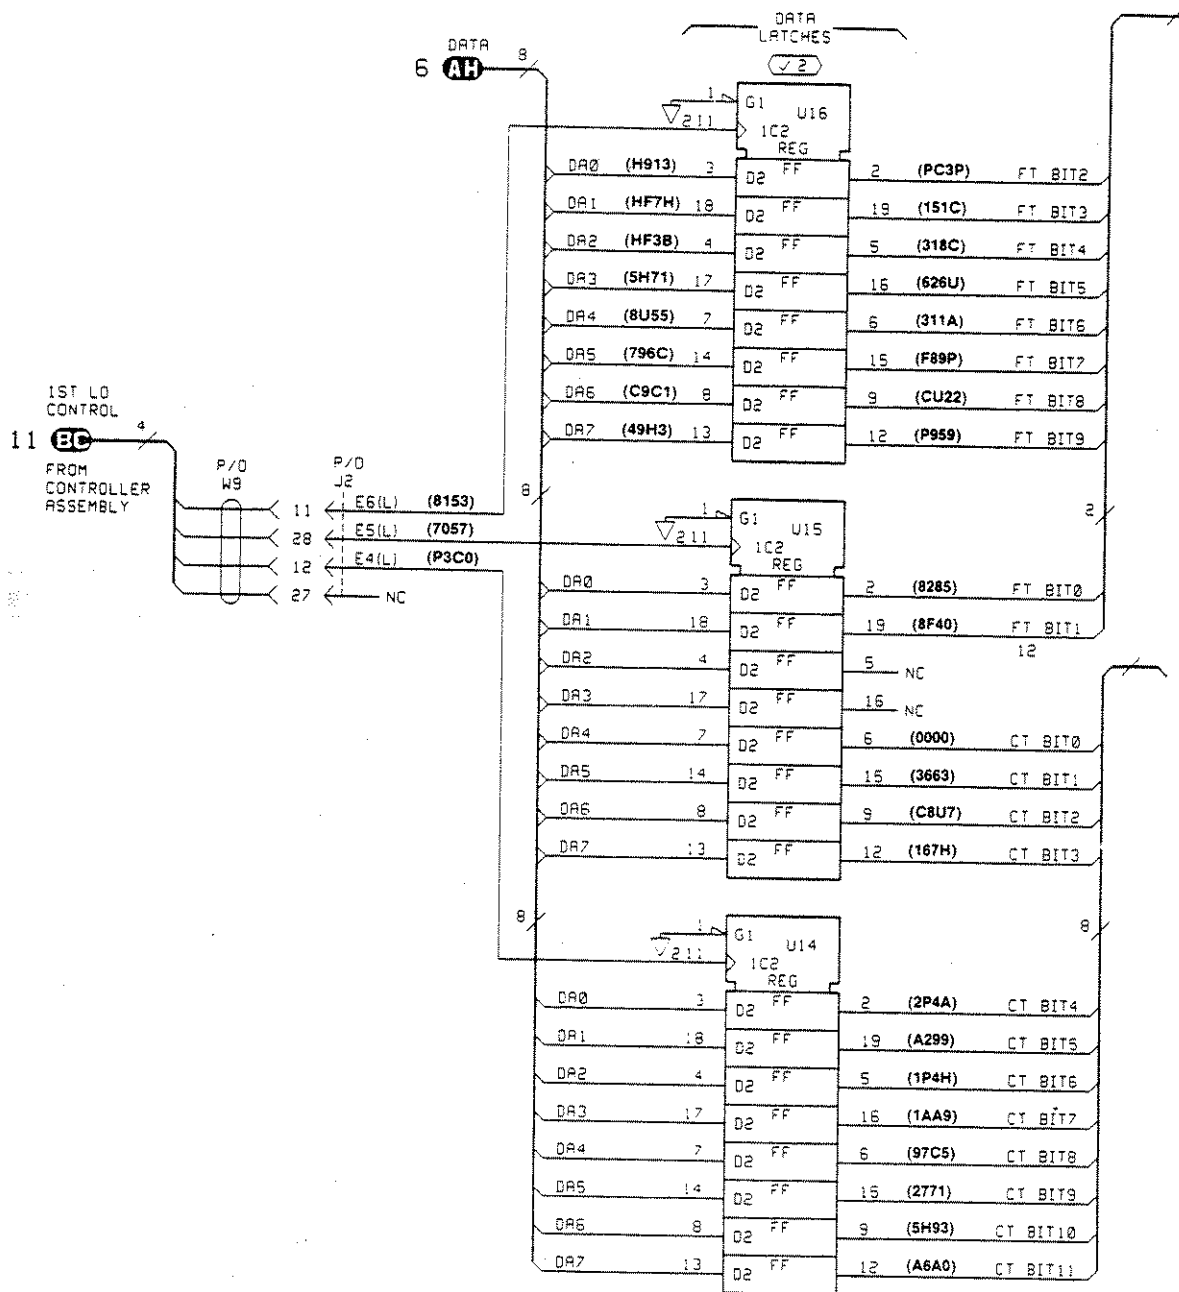

Figure 8-41. Data Latch Signatures
- Turn the Noise Figure Meter on and check the output signatures (right-hand side) in Figure 8-41.
- Check the input signatures in Figure 8-41 (left-hand side).